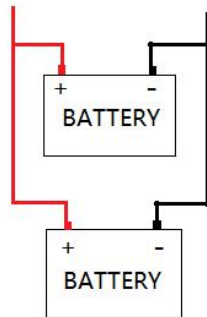

Figure 7.2.2 12V in parallel
Step 2: Prepare batteries and connect 2x12V batteries in parallel. Figure 7.2.2.